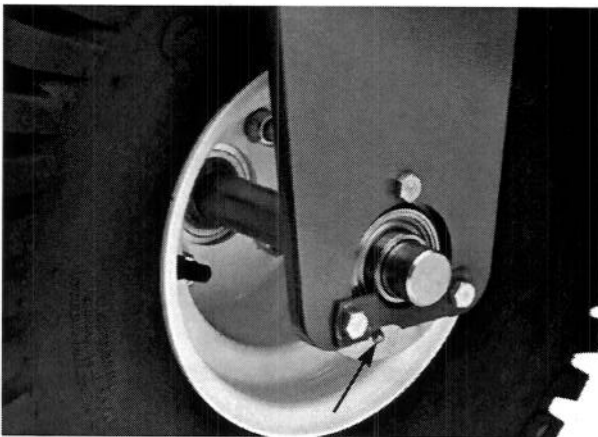
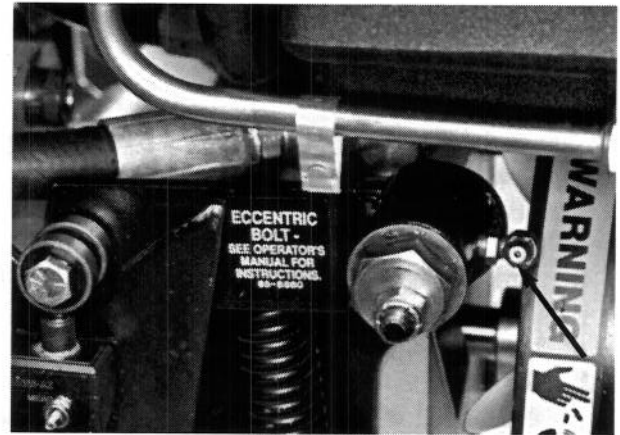
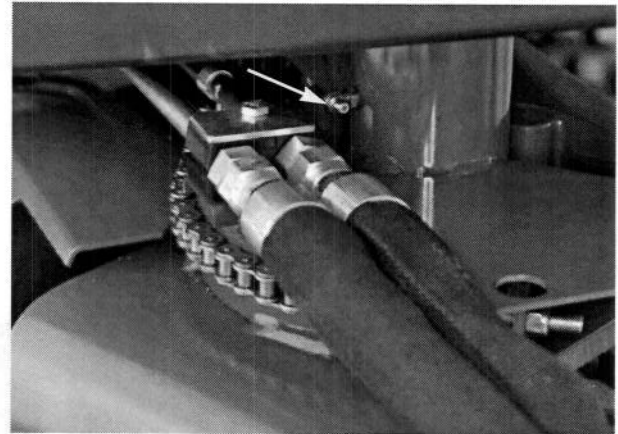

Figure 12
Figure 13
Figure 14
The bearings and bushings that must be lubricated are: the front wheel bearing (Fig. 12), the traction control linkage (Fig. 13) and steering shaft (Fig. 14).
Note: To gain access to the grease fitting on the traction control linkage (Fig. 13), remove the (3) screws securing the side panel to the right side of the machine and remove the panel.
Note: To gain access to the grease fitting on steering shaft (Fig. 14), remove the (4) screws and spacers securing the fuel tank to the top of the machine and raise the front of the tank.